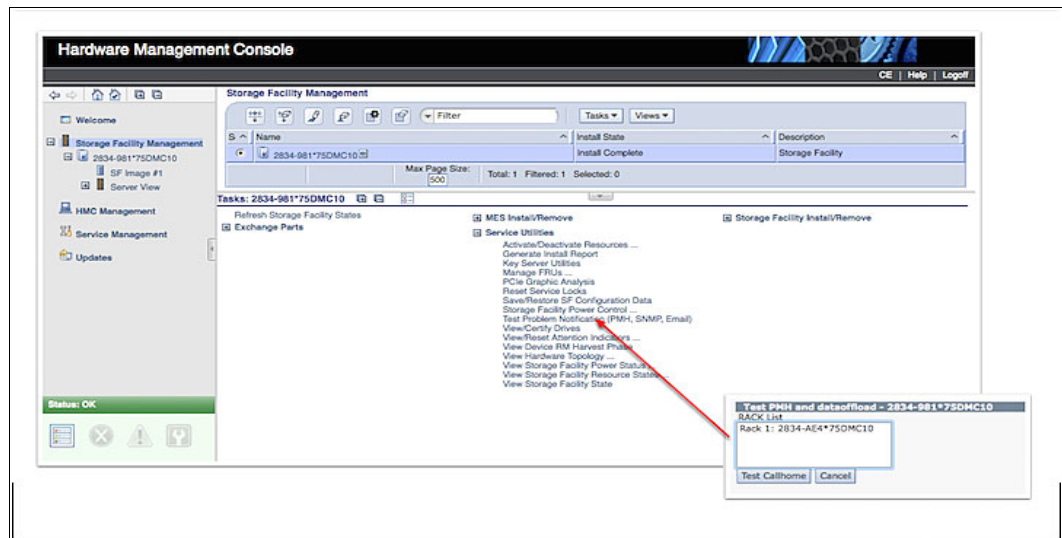

Figure 14-3 HMC test SNMP trap
- To verify the successful setup of your environment, create a Test Event on your DS8880 Management Console. Select **Storage Facility Management** → **Services Utilities** → **Test Problem Notification (PMH, SNMP, Email)**, as shown in Figure 14-3.